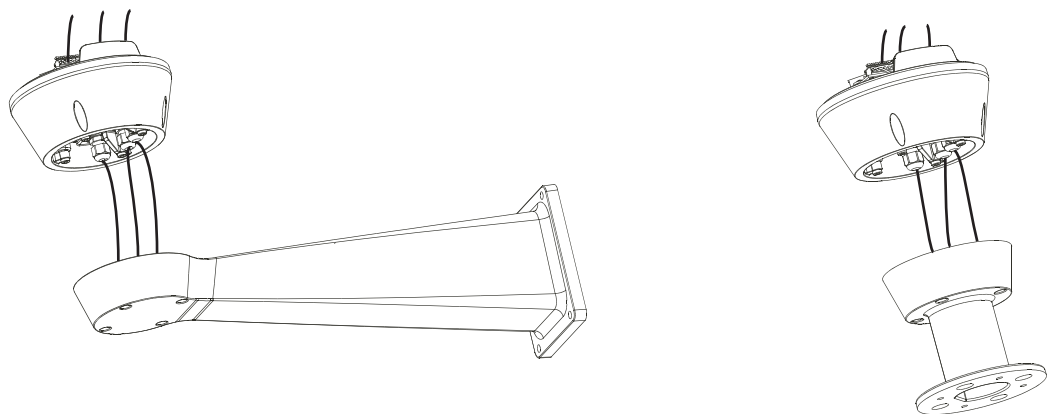

Fig. 4.2 Inserting the Cables through the Cable Glands
- Insert the cables into the cable glands while holding the base approx. 20 cm from the bracket (see *Figure 4.2*). Note that there are three glands; one for power, one for video, and one for data / IO cables.